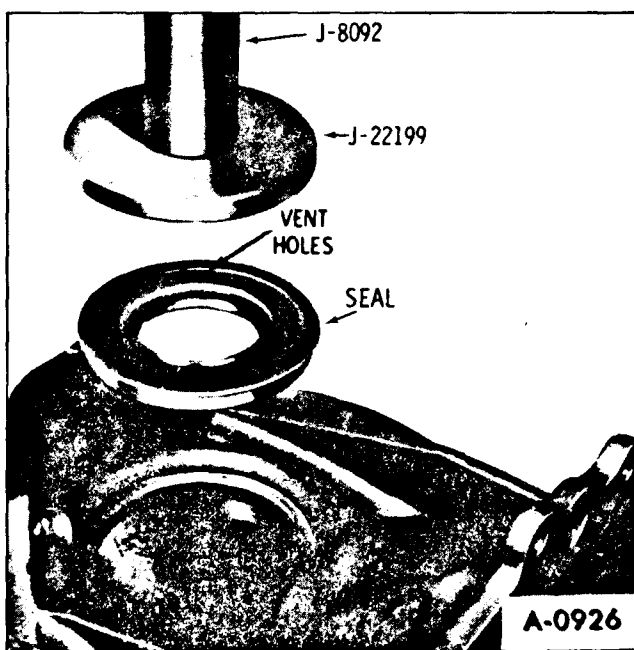

Figure 14—Installing L.H. Output Shaft Seal
1. If output shaft seal was removed, install new seal as shown in Figure 14.